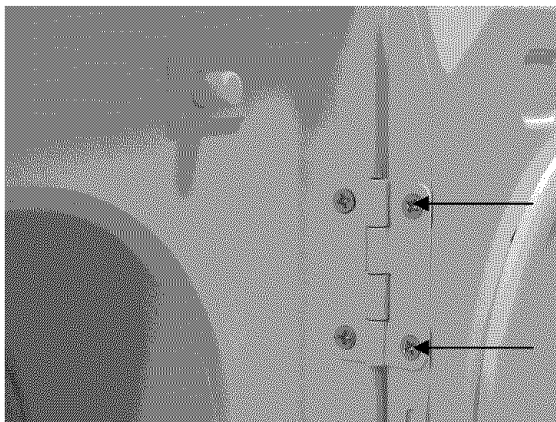

Figure 3
3. Place door on a towel or pad handle side down to prevent any possible scratches to door. Remove all remaining four (4) screws between hinge and door. (Figure 3)
4. Remove four (4) screws from side of door opposite of where hinge was mounted.